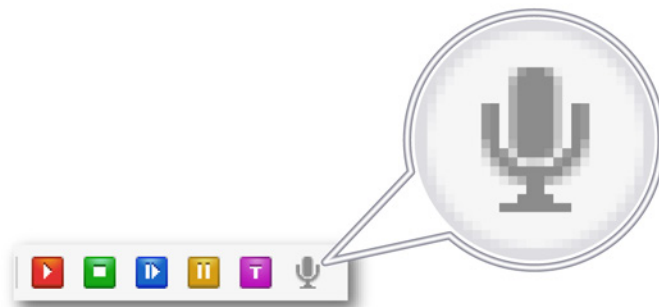

Figure 9.65: Voicemark control (microphone not activated)
- 4 The microphone icon is part of the Perception Controls Toolbar (see Figure 9.65)